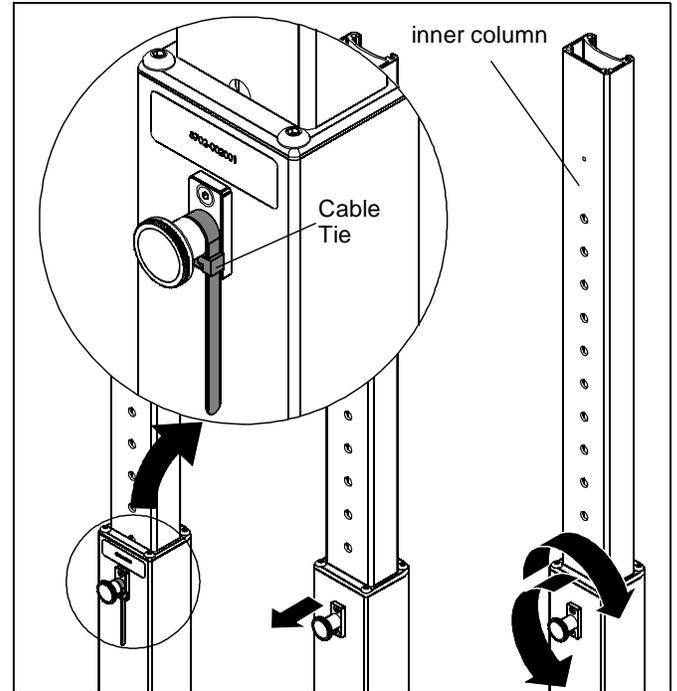

Figure 2
IMPORTANT ! : Press cable tie tab to loosen and remove cable tie from around knob post. (See Figure 2)
2. Lift up slightly on the inner column of upright and hold firmly toward top of upright. (See Figure 2)
3. Pull out knob on the upright and turn 90° in either direction to disengage the locking mechanism. (See Figure 2)
4. Raise the inner column and turn the knob 90° in either direction to engage the knob and lock the column in place. (See Figure 2)